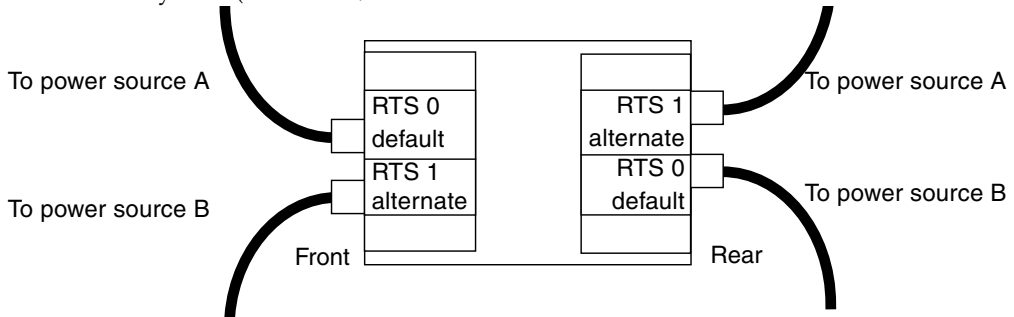

FIGURE 3-1 Sun Fire E6900 Configuration: Two RTU Assemblies and Two Independent AC Power Source
- In configurations with two RTU assemblies and two independent AC power source there will be four cables to connect, two on the front, and two on the rear of the system (FIGURE 3-1).